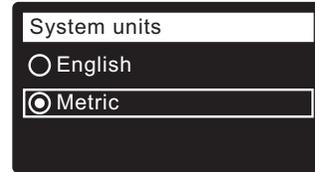

FIG. 21
9. **SYSTEM UNITS** If the desired system already has a dot next to it (See Figure 21), go to Step 10. Otherwise, press the DOWN (▼) or UP (▲) buttons to scroll to the desired system, then press the SELECT (O) button to choose it.
10. Press the SELECT (O) button.